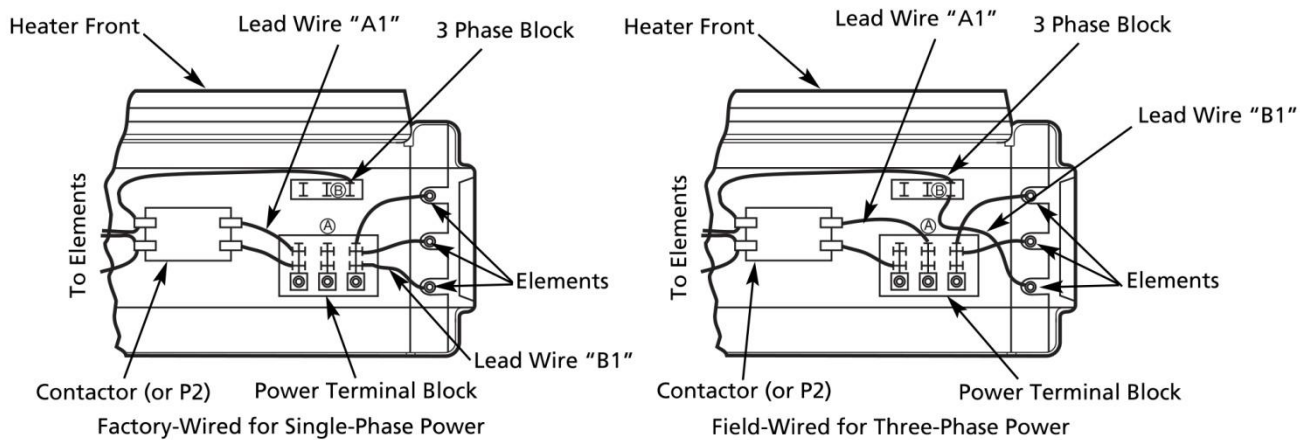

Figure 4a - Wiring Connections for Single-Phase and Three-Phase Power (DR-P275 and DR-P2100)
- 9 For model DR-P275 and DR-P2100 (Figure 4a), move only the two wires marked "A1" and marked "B1". do not move or change any other wiring. The element lead wire marked "B1" which is factory connected to the power terminal block (terminal located closest to the elements) must be moved to terminal "B" on the three-phase terminal block.